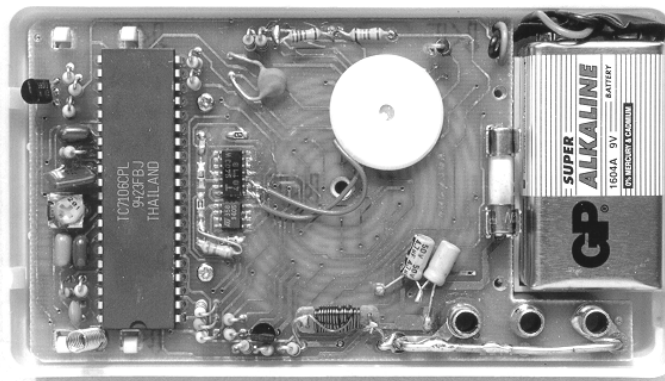

Fig. 6
- (c) (i) Fig. 6 shows a view of the circuit board. Describe two visible features indicating that the designers have tried to make the unit as compact as possible.